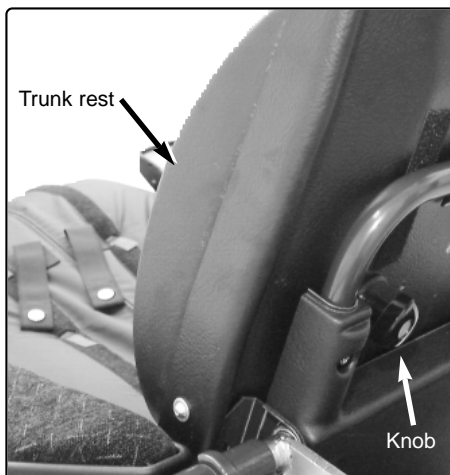

Figure 7. Trunk rest adjustment
1. Loosen the knob on the back of the back rest; see figure 7.